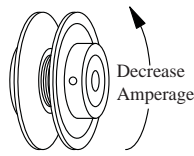

Fig. 6
- **Adjust pulley if necessary.** If amperage draw is less than motor rating, turn off electrical power and remove inspection panels. Unplug motor inside cooler, this will protect you from someone turning on unit while you are working inside. This should be done for your safety. Adjust pulley to a larger diameter and readjust belt tension, plug motor in, install inspection panels, and retest amperage draw. Repeat this process until correct amperage draw is attained. Increasing motor pulley diameter increases amperage draw. Decreasing motor pulley diameter decreases amperage draw (see Fig. 6).